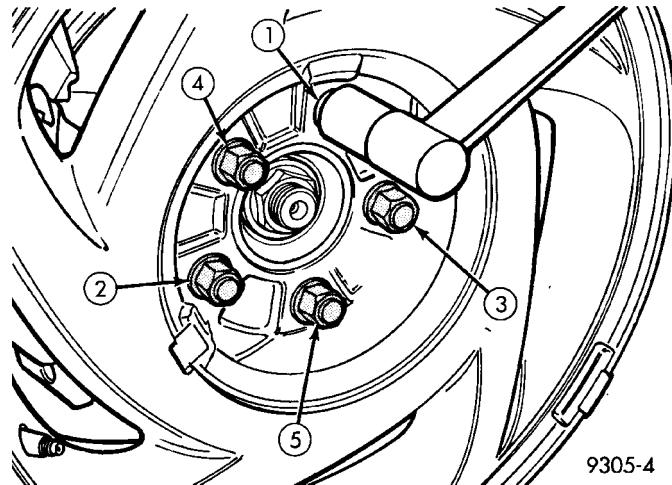

Fig. 19 Tightening Wheel Nuts
(12) Install wheel and tire assembly on vehicle. Tighten the wheel mounting stud nuts in proper sequence (Fig. 19), until all nuts are tightened to half specification. Then repeat the tightening sequence to the full specified torque of 135 N·m (100 ft. lbs.).